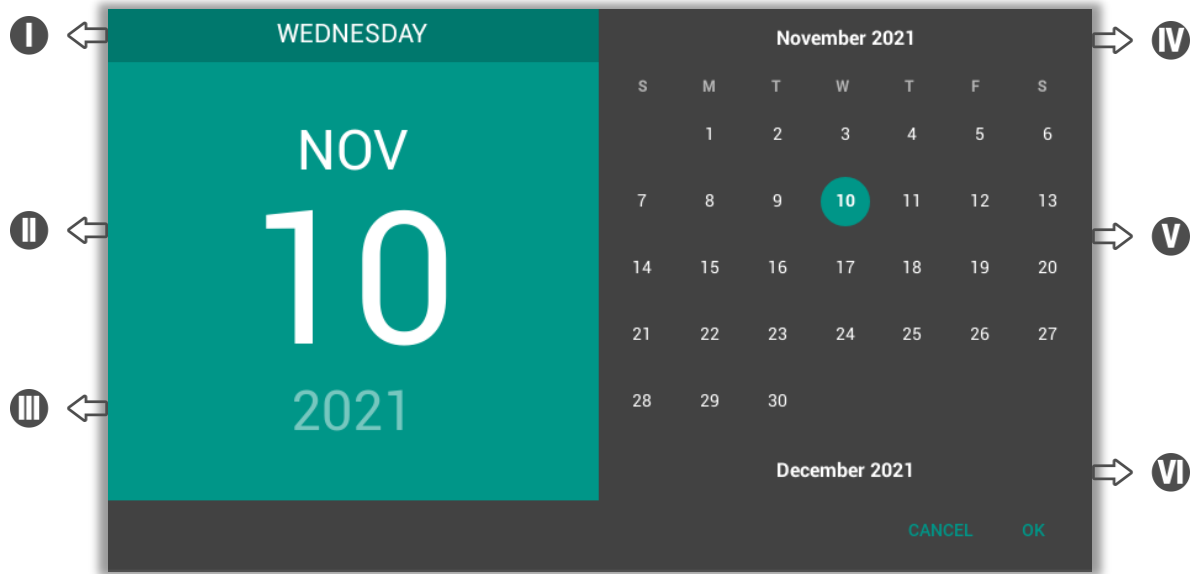

Fig. 58: Calendar Window
- 2 By pressing this touch button, the Date Info is set. When the button is pressed, the calendar window appears on the screen (Fig. 58).
- III Press this touch button for the year to be set. The year list appears in the grey part of the calendar (Fig. 58). The selected day is displayed on this touch button.